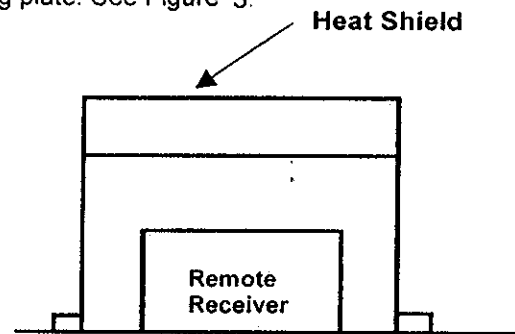

Figure 5
6. In order to prevent the Remote Receiver (fireplace installation only) from overheating, put a heat shield (option item) above the Remote Receiver. See Figure 5.